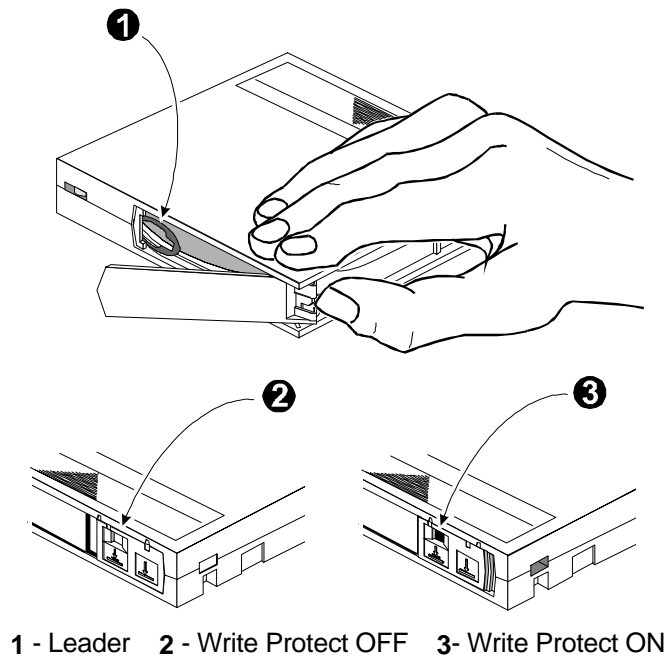

Figure 3-43 DLTtape Cartridge
- Inspect the leader by opening the cartridge door as shown in Figure 3-43. The leader should be positioned as shown in view (1), and should protrude at about a five degree angle from the case. If the leader is out of position, ***do not use the cartridge***; damage to the drive could result.
The write protection switch of a DLTtape cartridge is also shown in Figure 3-43. To enable data recording, slide the write protect switch to the right so that no orange color is visible through the window in the write protect switch (2). To write protect the DLTtape cartridge, slide the write protect switch to the left until the orange indicator shows through the window on the write protect switch (3).
The cleaning cartridge is similar in appearance to the cartridge shown in Figure 3-43. The command to run the cartridge is issued from the control panel of the Global Control Module. The procedures that follow tell you how to install a cleaning cartridge, how to clean a drive, and how to remove the cleaning cartridge.